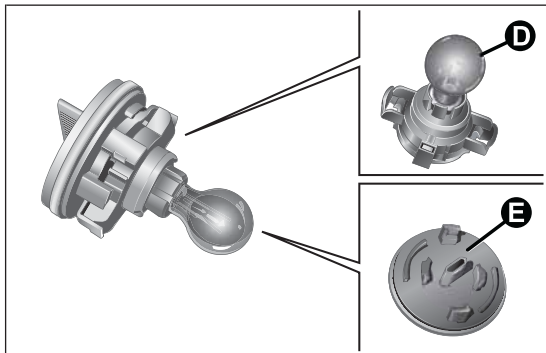

fig. 133
- ❑ remove the bulb D fig. 133 from its housing E.